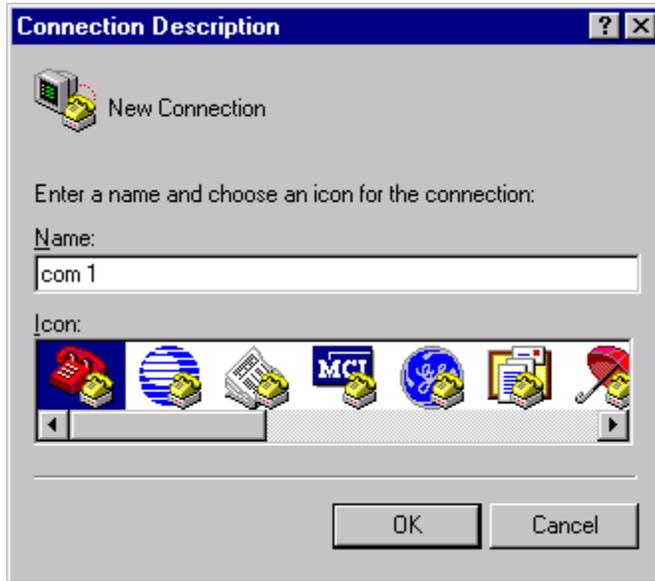

Figure 4-6 “Connection Description” Window
- 3 A window will appear as in Figure 4-6. Enter COM 1 in the name box. Press the OK button.